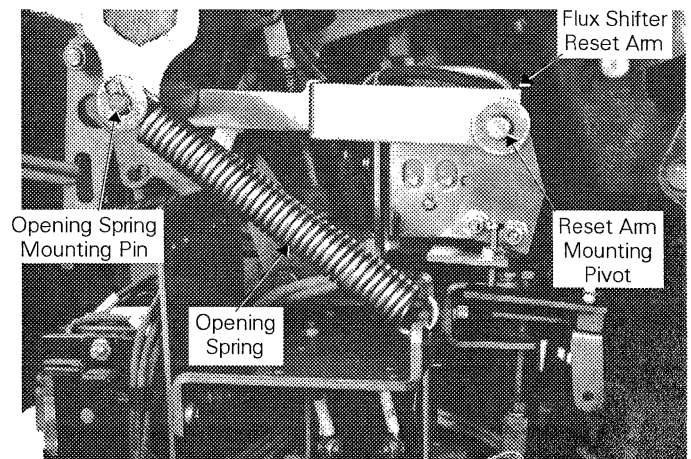

Figure 5. Flux shifter reset arm connected on a KD breaker.
6. Attach the flux shifter reset arm to the flux shifter assembly by placing the following parts in sequence on the mounting pivot on the flux shifter assembly, as shown in Figures 5, 6, and 7:
7. Attach the flux shifter reset arm to the movable contact arm by placing the following parts in sequence on the opening spring shaft, at the opposite end from the opening spring, as shown in Figures 5, 6, and 7:
8. Reattach the opening spring and accessory links by placing the following parts onto the opening spring mounting pin, as shown in Figures 5, 6, and 7: